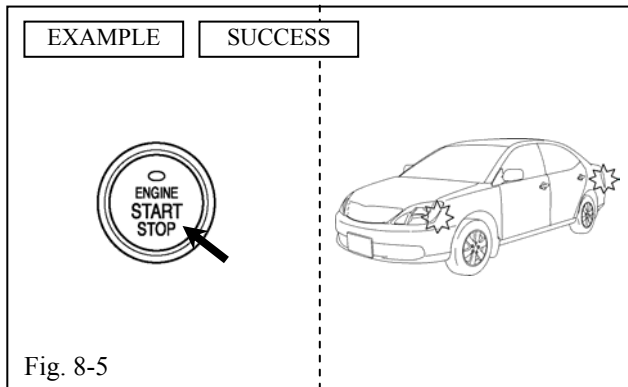

Fig. 8-5
- (j) The Hazard Lights flash once. Registration is completed. (Fig. 8-5)